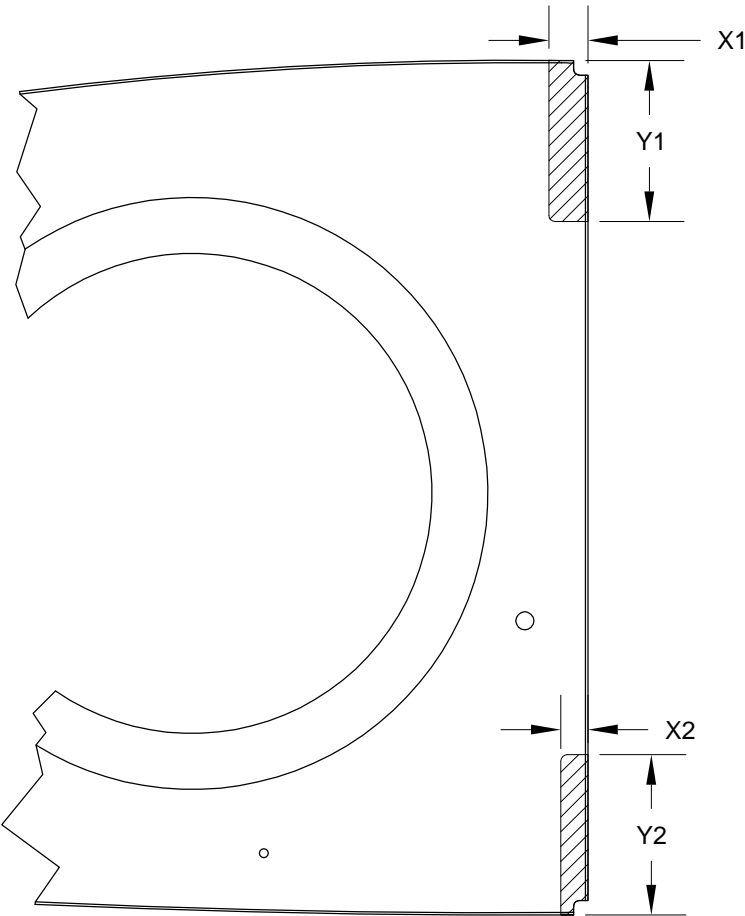

FIGURE 2:
Step 3: Modify two W-1009-L for the left wing assembly and two W-1009-R Leading Edge Ribs for the right wing assembly per the dimensions given in Table 1 and as shown in Figure 2. This will create W-1009-1L, W-1009-2L, W-1009-1R and W-1009-2R. The ribs must be notched to fit around the spar bars and rivet heads on the main spar assembly. Because the main spar bars are stepped (spanwise thickness changes) two different modified ribs will be required, see isometric view on page 1.